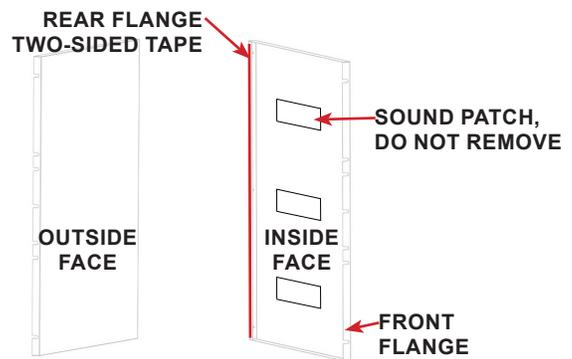

FIGURE 2.56 - End Panel Tape
- STEP 5:** Remove two-sided tape paper strip to expose the adhesive side of the tape. See FIGURE 2.56